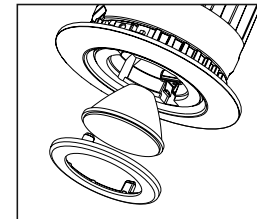

Figure 15
Step 2. Place the desired optic onto the gimbal face. Align the posts on the gimbal face with the spring receivers in the gimbal body. Push the face and optic into the gimbal body (Fig. 15).